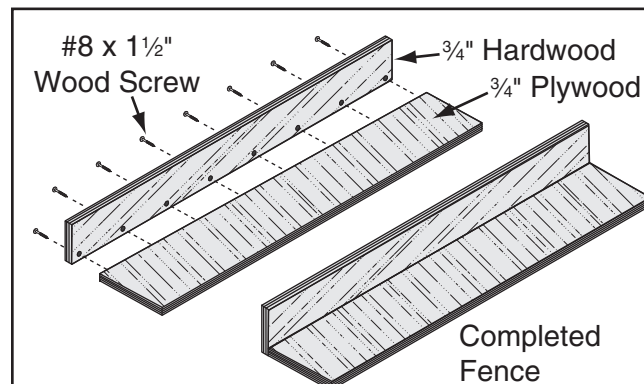

Figure 130. Location of pilot holes.
2. Pre-drill and countersink eight pilot holes $\frac{3}{8}$ " in from edge of $5\frac{1}{4}$ " wide board, then secure boards together with eight #8 x $1\frac{1}{2}$ " wood screws, as shown in **Figure 130**.